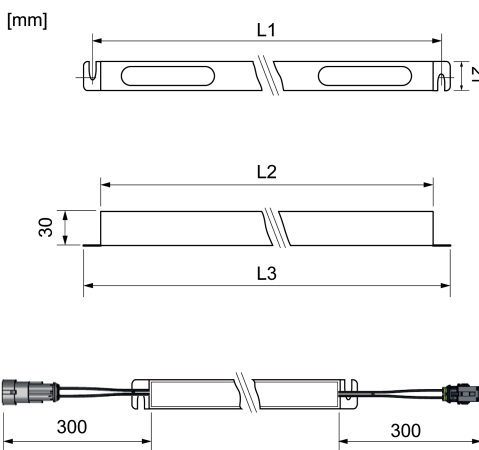

Figure 4: Dimensioned drawing [mm]
- Prepare boreholes in the groove for the fastening of the luminaires. Observe dimensioned drawing for the distance of the boreholes (Figure 4).